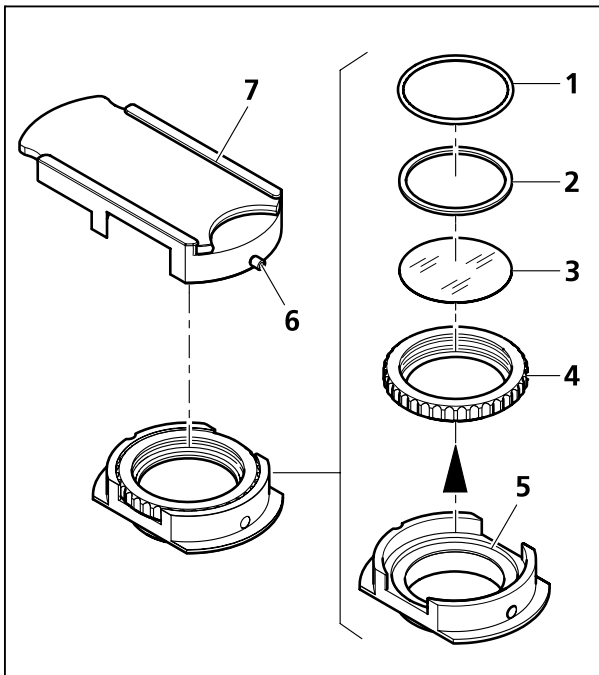

Fig. 12 Removing the yellow filter from the slider
- Loosen the clamping screw (Fig. 12/6) and remove the filter holder (Fig. 12/5) downwards from the slider (Fig. 12/7).
- Remove the knurled ring (Fig. 12/4) with the color filter from the filter holder.
- Remove both O-rings (Fig. 12/1 and 2) from the knurled ring, push the yellow filter (Fig. 12/3) carefully out and keep it for future use.